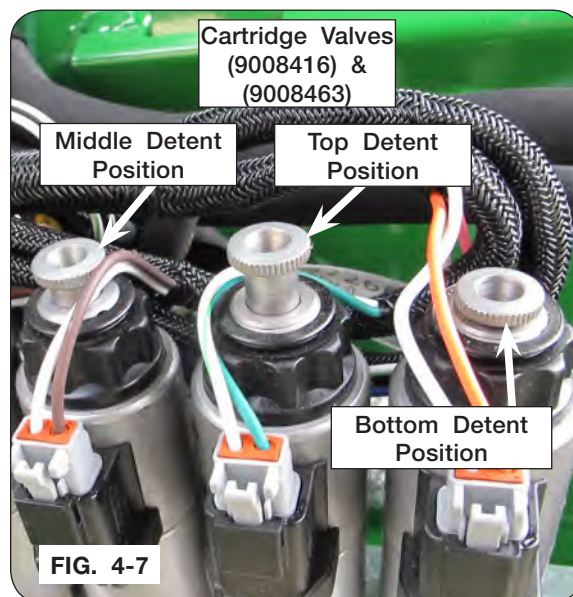

FIG. 4-7
NOTE: Only one cartridge valve (9008416 & 9008463) must be in the top or bottom detent position at a time to function properly. All other valves must be in the middle detent position. (FIG. 4-7 & 4-8)
5. Operate the desired function on valve (9008416 & 9008463) by rotating the manual override knurled knob from the locked neutral position. (FIG. 4-7, 4-8, & 4-10)
8. Return knurled knob to center and lock valve (9008416) & (9008463) in position. (FIG. 4-7, 4-8 & 4-10)